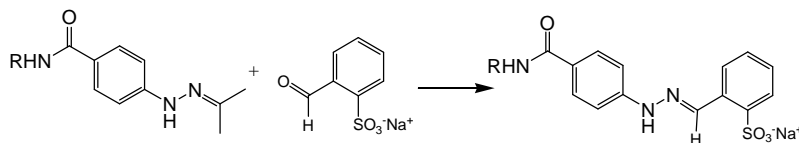

Figure 2: Colorimetric reaction used to quantify number of HyNic moieties on a biomolecule
The HyNic-4FB conjugation couple is chromophoric- the conjugate bond absorbs at 354 nm and has a molar extinction coefficient of 29000. This allows (1) real time spectrophotometric monitoring of a conjugate reaction, (2) ability to 'visualize' the conjugate during chromatographic purification using a UV or photodiode array detector and (3) quantification of conjugation. Furthermore, the level of incorporation of HyNic groups can be quantified colorimetrically as reaction with 2-sulfobenzaldehyde (Solulink catalog# # S-2005) yields a chromophoric product that absorbs at A350 with a molar extinction coefficient of 20000 (Figure 2). Links to procedures and calculators to guide users through this process are given in the procedures below.
- The molar substitution ratio (MSR) can be determined using a colorimetric reaction outlined in Figure 2. Addition of 2-sulfobenzaldehyde to a HyNic-modified biomolecule yields a bis-arylhydrazone that absorbs at 350 nm. Refer to the HyNic-Protein Colorimetric MSR Calculator or the HyNic-Oligonucleotide Colorimetric MSR Calculator as well as the protocol that is appropriate for your lab equipment: HyNic Colorimetric MSR Assay Protein Nanodrop Method Protocol, HyNic Colorimetric MSR Assay Protein Spectrophotometer Method Protocol, HyNic Colorimetric MSR Assay Oligonucleotide Nanodrop Method Protocol, or HyNic Colorimetric MSR Assay Oligonucleotide Spectrophotometer Method Protocol.